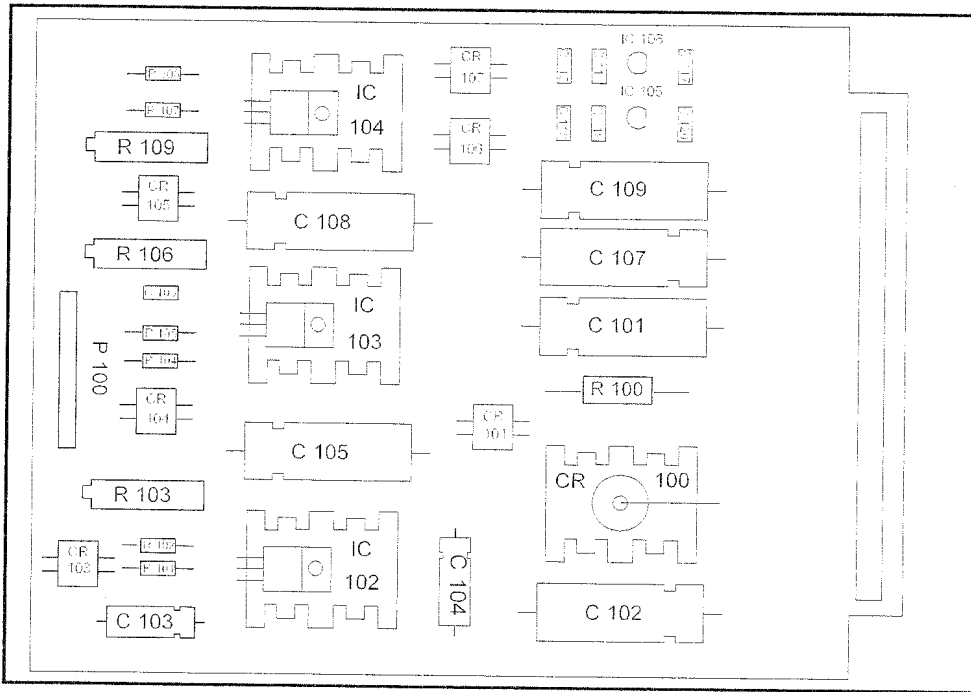

Figure 4 Power Supply Board 885059 component side
7.2.1 Locate Power Supply Board P/N 885059 on the right-hand side toward the back back of the 8850-2. See Figures 4 and 5 for test points and trimpot locations. Unless otherwise noted, DC voltage measurements will be made with the negative lead connected to the black binding post (OUTPUT - ground) on the front panel.